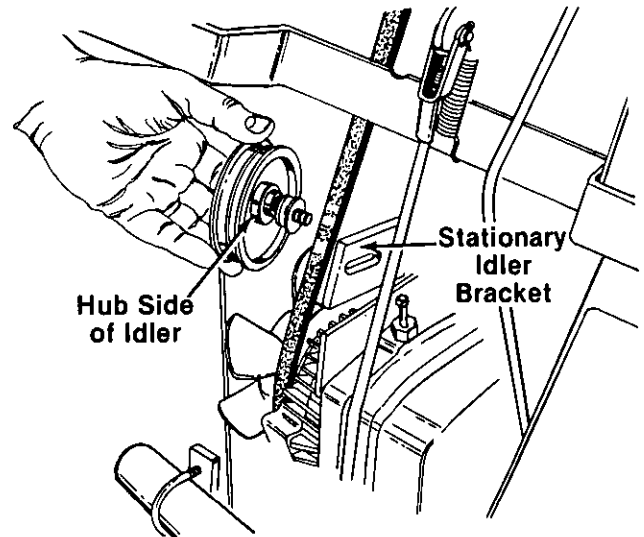

FIGURE 29.
1. Loosen (do not remove) the hex bolt and nut at the stationary idler bracket. Refer to figure 29.
Upon reassembly of idler pulley at pump, the hub side of idler and flat washer must go against the stationary idler bracket, as shown in figure 29.